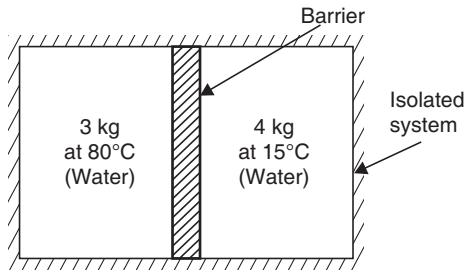

Fig. 3.43
**Solution.** Fig. 3.43 shows the isolated system before mixing. When barrier is removed, the water from two compartments mix each other. Let  $t_m$  is the final equilibrium temperature after mixing.